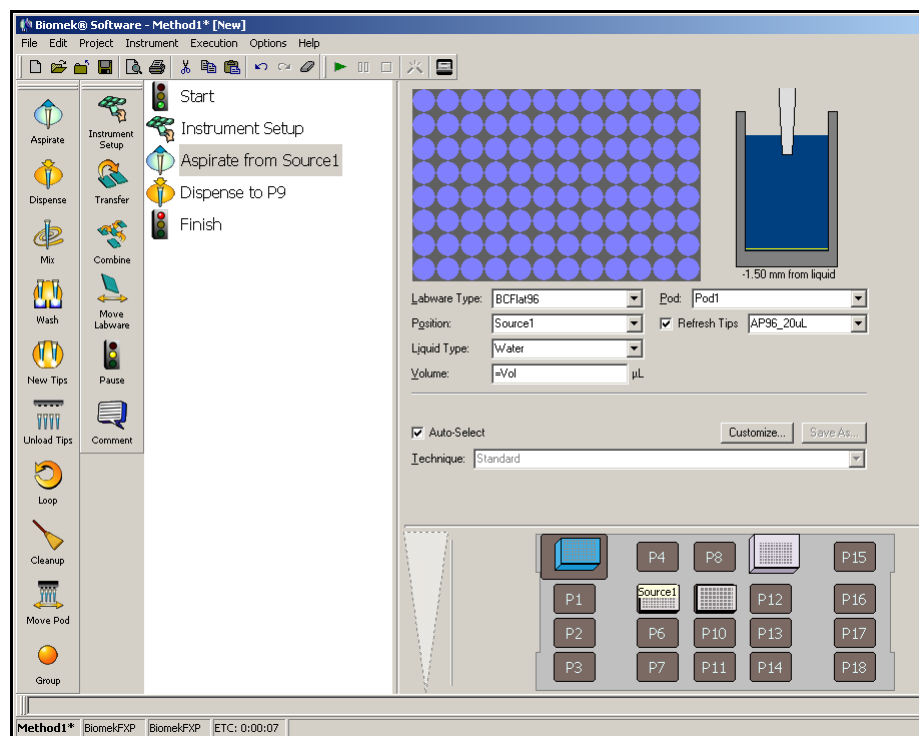

Figure 3-5. Using the variable Vol to configure the Volume
2. In **Volume**, enter **=Vol** (including the equal sign), as shown in Figure 3-5. Variables are always preceded by an equal sign when entering them into a step configuration field. When the method is run, *Vol* is replaced by the value of the variable; in this case, 60.